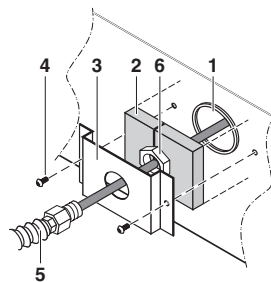

Fig. 28
- After connection, attach the sealing material. (**Refer to Fig. 28**). Be sure to attach it to prevent infiltration of water from the outside. Make sure that the slit in the sealing material is positioned vertically.
After attaching the sealing, screw the conduit mounting plate (13) using the 2 delivered screws (M4) (14) to the side of the unit where the power supply cables enter the unit. (**Refer to Fig. 28**).